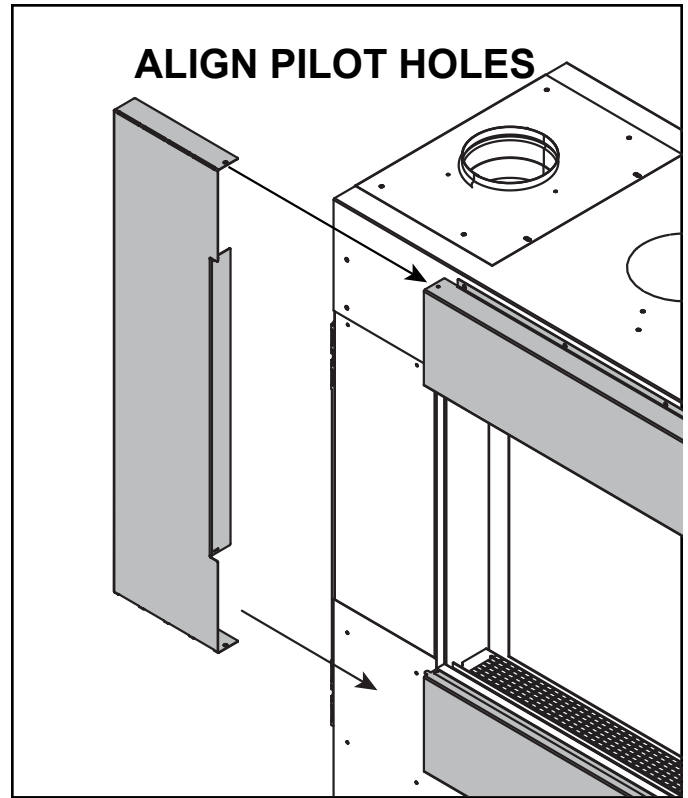
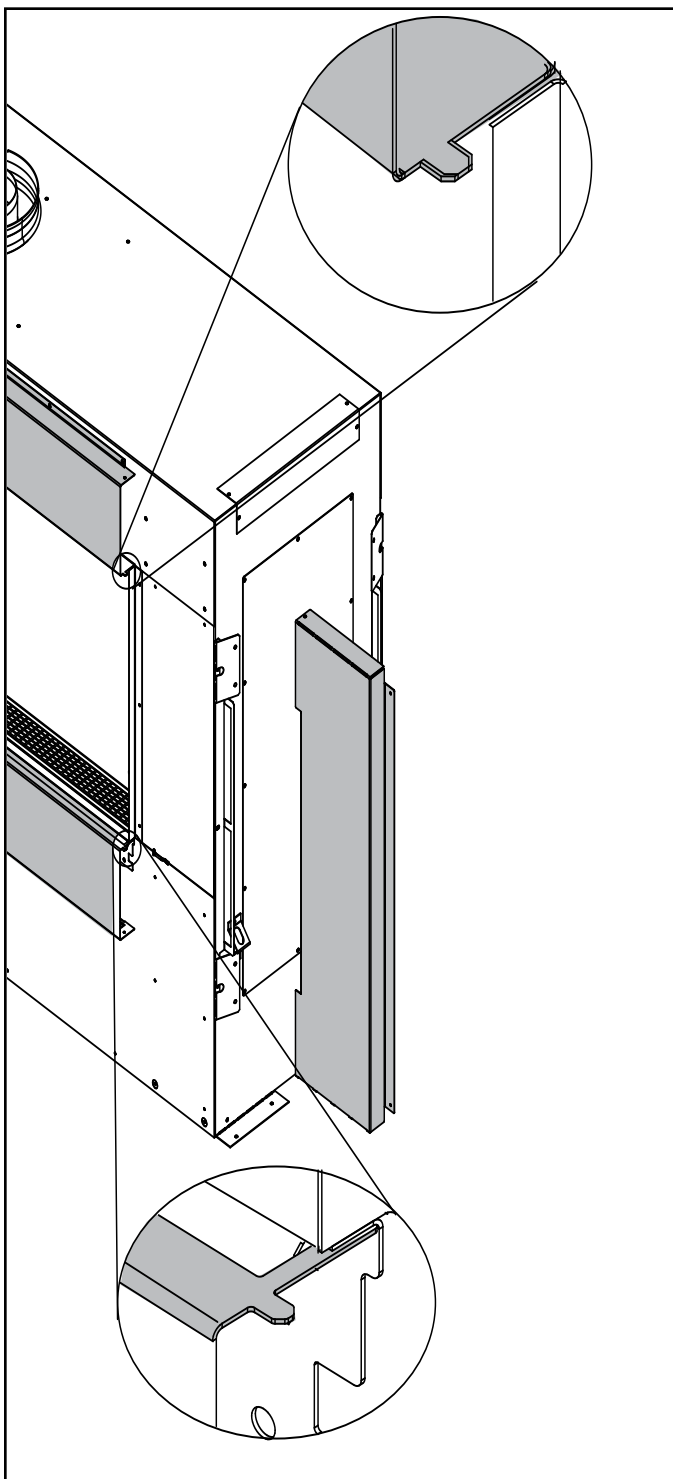

Figure 13 Left Side Panel
Figure 14 Right Side Panel Placement
6. The side panels are symmetrical. Position the side panel and interlock it with the slots on the top and bottom panel. The top and bottom screws are installed through the pilot holes on both the top and side panels as noted in Figure 13. Install two self-tapping screws into side panels. Repeat process with the right side panel. The tabs are visible in the detail shown in Figure 14.